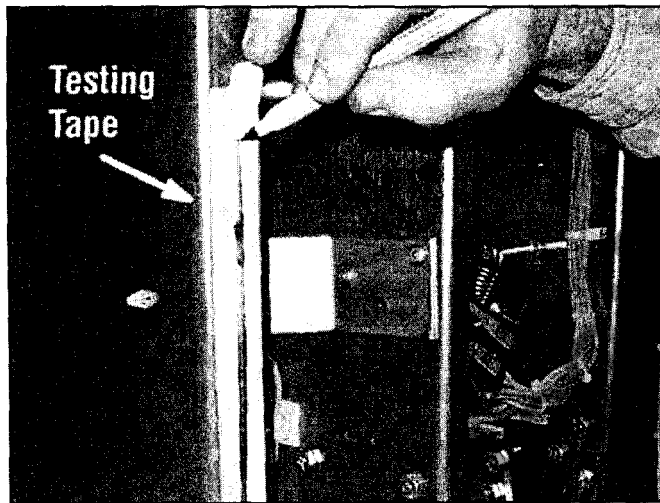

Figure 6-14 Evaluate the CloSure™ Performance
**Step 12** - Inspect the circuit breaker to assure it is in the open position and the closing springs are discharged. Remove the transparent CloSure™ Tool. Remove the tape from the cam and stick the tape on the front right side sheet of the circuit breaker. Record the date of the test and the operations counter reading on the tape (Figures 6-14 and 6-15).